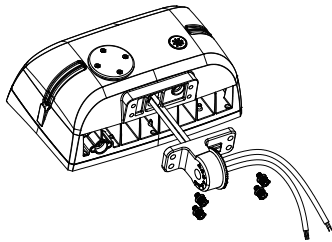

Figure 3-1
- Align the holes of the fixture and the gasket mat with those on Slip Fitter Part A. Pass the cable through these aligned holes (Figure 3-1).